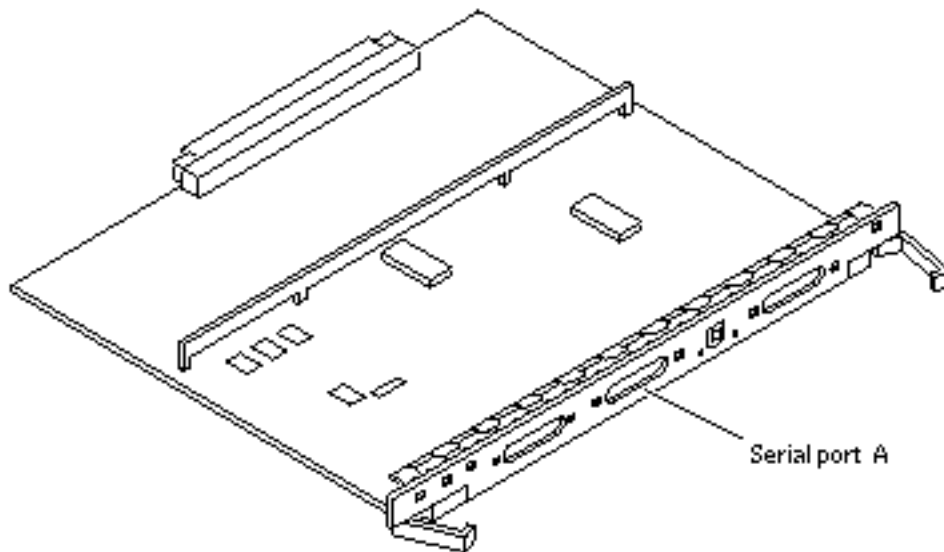

Figure 2-9 Clock+ Board
1. Connect the terminal cable into serial port A on the clock+ board (Figure 2-9).